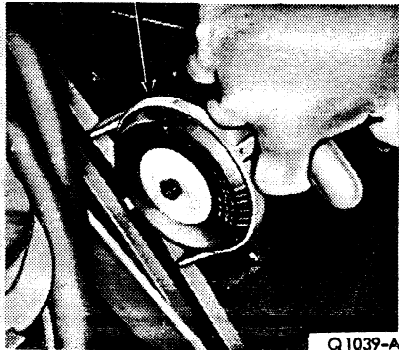

FIG. 1 Belt Tensioning
1. Install the belt tension tool on the drive belt (Figure 1) and check the tension.